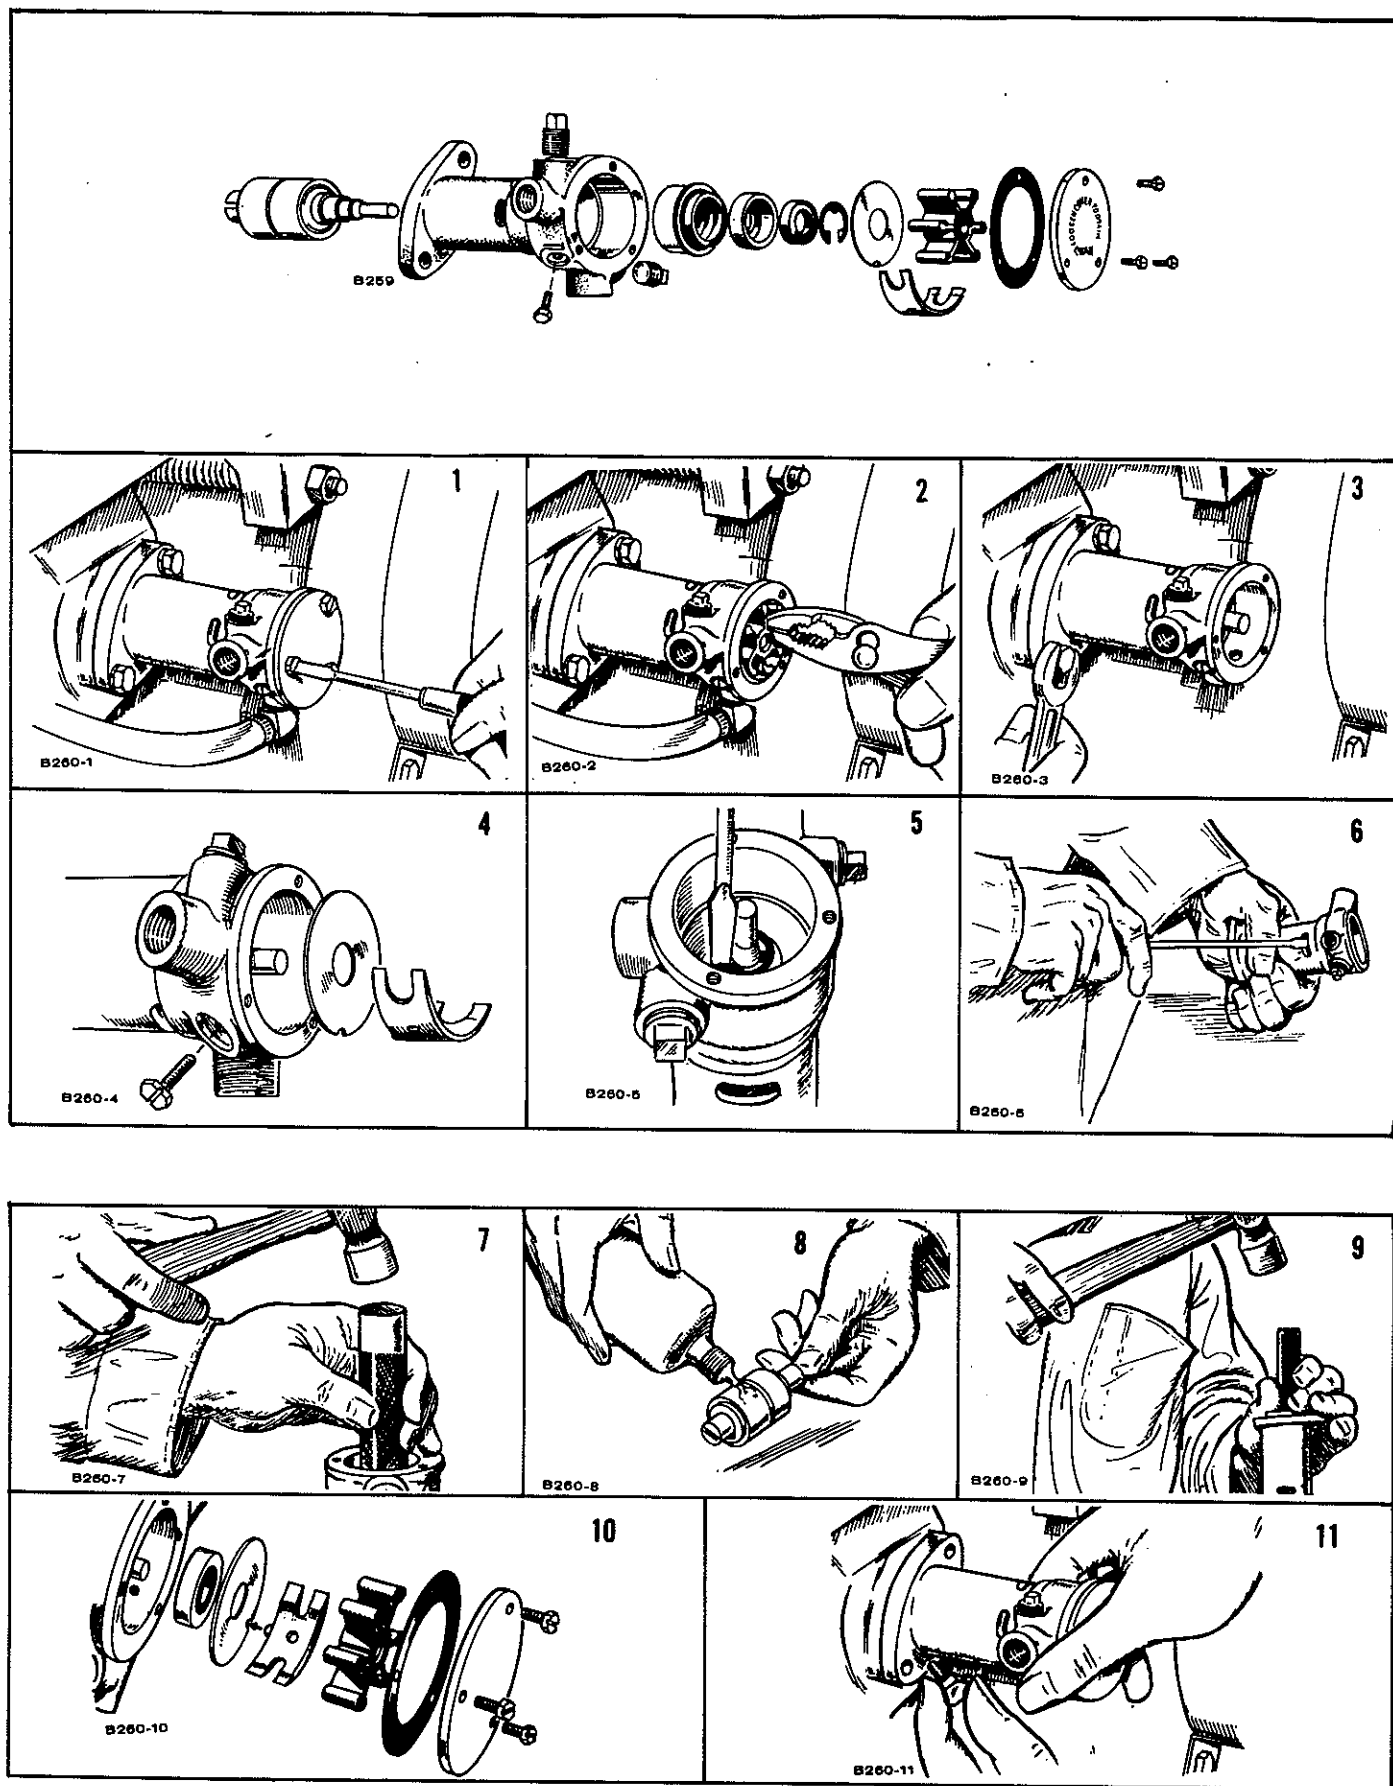

FIGURE 6-25. DISASSEMBLY—RAW WATER PUMP (131-0152)
1. Loosen pump end plate screws and remove end plate, Figure 6-25, step 1.
1. Place bellows in a counter bore and drive in place using special tool, Figure 6-25; step 7.